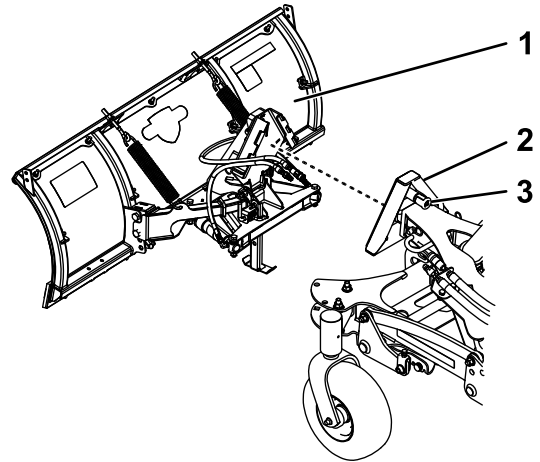

Figure 7
- Ensure that the plow is sitting upright, with the kickstand lowered (Figure 7).
- Slowly drive forward until the A-frame coupler contacts the plow coupler (Figure 7).